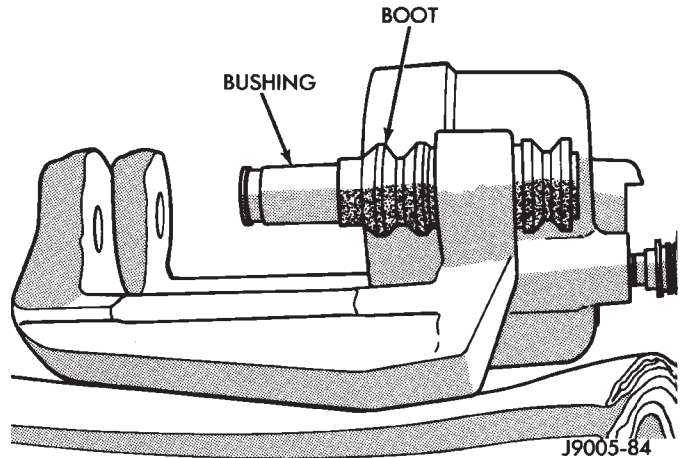

Fig. 70 Bushings And Boots Installation
- (1) Lubricate caliper piston bore, new piston seal and piston with clean brake fluid.
- (2) Lubricate caliper bushings and interior of bushing boots with silicone grease.
- (3) Install bushing boots in caliper, then insert bushing into boot and push bushing into place (Fig. 70).